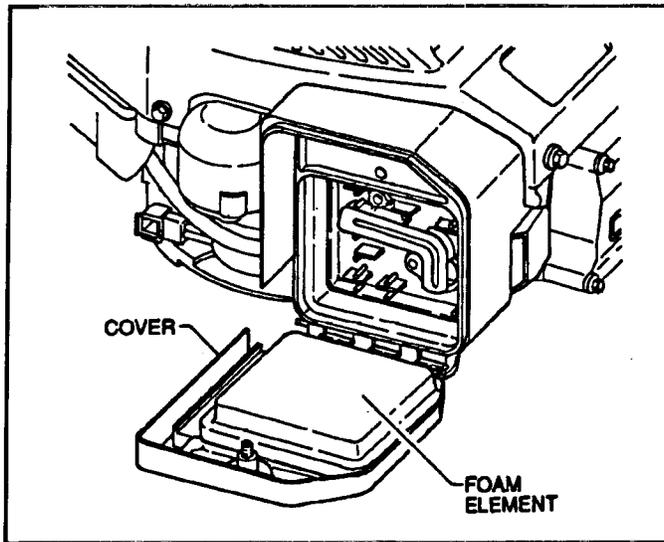

Figure 1
2. Rotate the knob securing the air cleaner cover to the engine until the cover can be removed. Clean the cover thoroughly. See Figure 1.
3. If the outside of the foam element is dirty, remove it from the air cleaner body and clean it thoroughly. See Figure 1.